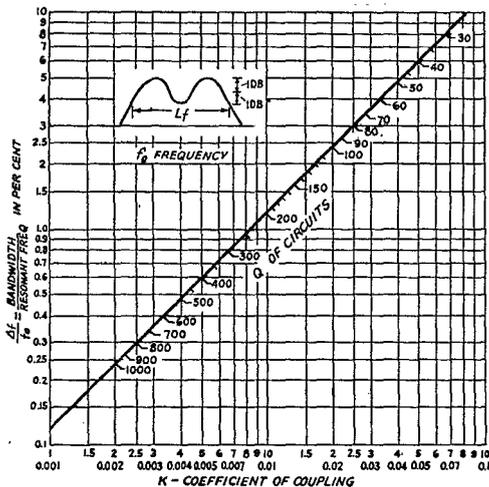

Fig. 4 — Values obtained from Eqs. (14) and (15) (level variation within pass-band 1 db.).
Fig. 4 is a plot of Eqs. (14) and (15).
of Fig. 4. $\frac{\Delta f}{f} = \frac{(2)(15)}{456} = 6.58$ per cent, and
from Fig. 4, $k = 0.055$ and $Q = 36.5$.